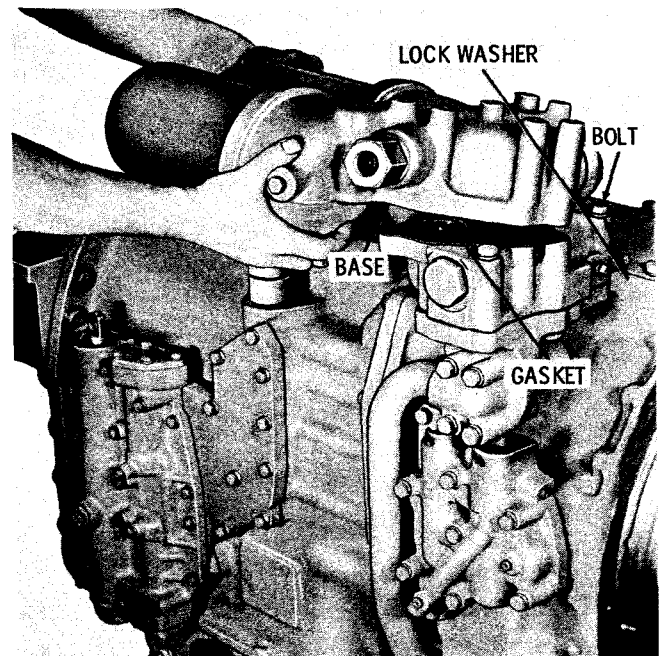

Fig. 7-106. Installing oil filter and base assembly
(18) Install the oil filter and base assembly (fig. 7-106). Retain the assembly with five 7/16-14 x 8 1/4-inch, and two 7/16-14 x 4 1/2-inch bolts. Tighten the bolts to 42 to 50 pound feet torque.